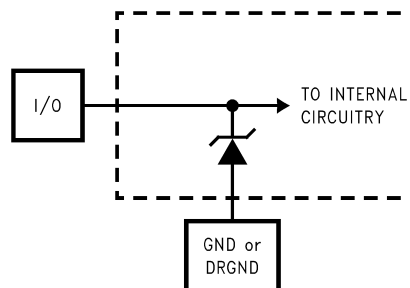

Figure 2.
- (1) The inputs are protected as shown below. Input voltages above V_A or below GND will not damage this device, provided current is limited per Note 4 under the Absolute Maximum Ratings Table. However, errors in the A/D conversion can occur if the input goes above V_A or below GND by more than 100 mV. As an example, if V_A is 3.3V, the full-scale input voltage must be $\leq 3.4V$ to ensure accurate conversions. See Figure 2
- (2) To ensure accuracy, it is required that $|V_A - V_D| \leq 100\text{ mV}$ and separate bypass capacitors are used at each power supply pin.
- (3) With the test condition for $V_{REF} = +1.0V$ ($2V_{P-P}$ differential input), the 12-bit LSB is 488 μV .
- (4) Typical figures are at $T_A = T_J = 25^\circ\text{C}$, and represent most likely parametric norms. Test limits are specified to TI's AOQL (Average Outgoing Quality Level).
- (5) Integral Non Linearity is defined as the deviation of the analog value, expressed in LSBs, from the straight line that passes through positive and negative full-scale.
- (6) Optimum dynamic performance will be obtained by keeping the reference input in the 0.8V to 1.2V range. The LM4051CIM3-ADJ or the LM4051CIM3-1.2 bandgap voltage reference is recommended for this application.
- (3) With the test condition for $V_{REF} = +1.0V$ (2V_{P-P} differential input), the 12-bit LSB is 488 μV .
- (4) Timing specifications are tested at TTL logic levels, $V_{IL} = 0.4V$ for a falling edge and $V_{IH} = 2.4V$ for a rising edge.
- (5) Typical figures are at $T_A = T_J = 25^\circ\text{C}$, and represent most likely parametric norms. Test limits are specified to TI's AOQL (Average Outgoing Quality Level).